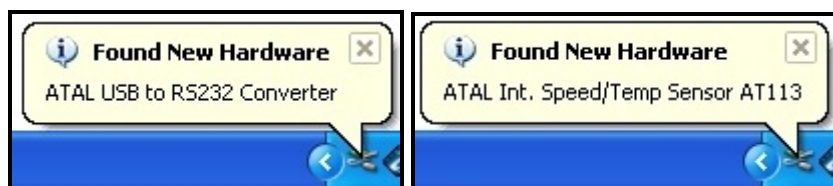

Fig. 52 – Examples of info tips about the detection of a new device (Windows XP)
After you have successfully installed **any program from the Multi-Diag family** and you then connect **any USB device from the ATAL company** to your computer, information about new hardware (HW) will appear in the form of a Windows “Info tip” (see Fig. 52).
3. The device should be detected, see Fig. 52.